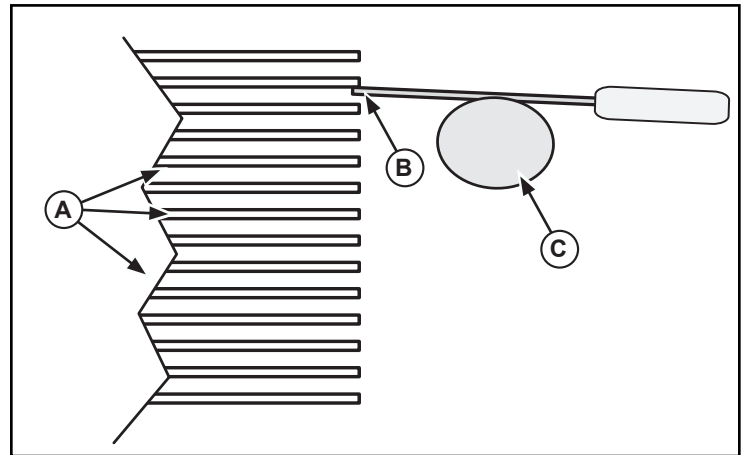

Figure 6. Adjusting the Pusher Head Fingers
2. Hold a thin flat tool (B) on the pusher finger(s) that require adjustment. Tap the tool (B) with a mallet or similar tool. Use caution not to disrupt or make contact with another finger or to scratch the anodized surface of the pusher fingers. See Figure 6.